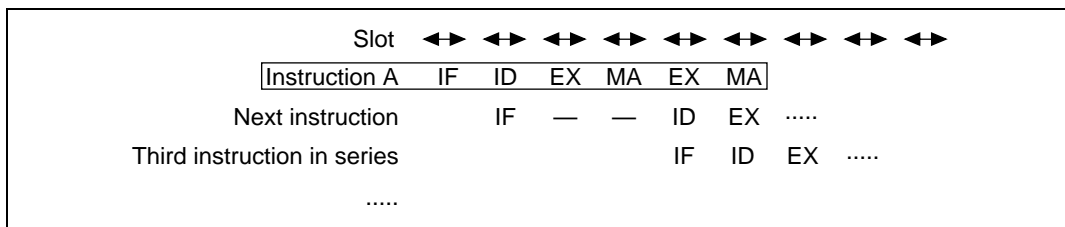

Figure 10.35 Memory Logic Operation Instruction Pipeline
The pipeline has six stages: IF, ID, EX, MA, EX, and MA (figure 10.35). The ID of the next instruction stalls for 2 slots. The MAs of these instructions contend with IF (see 10.2.1 Contention between Instruction Fetch (IF) and Memory Access (MA)).
(4) SR Update Memory Logical Calculation Instructions